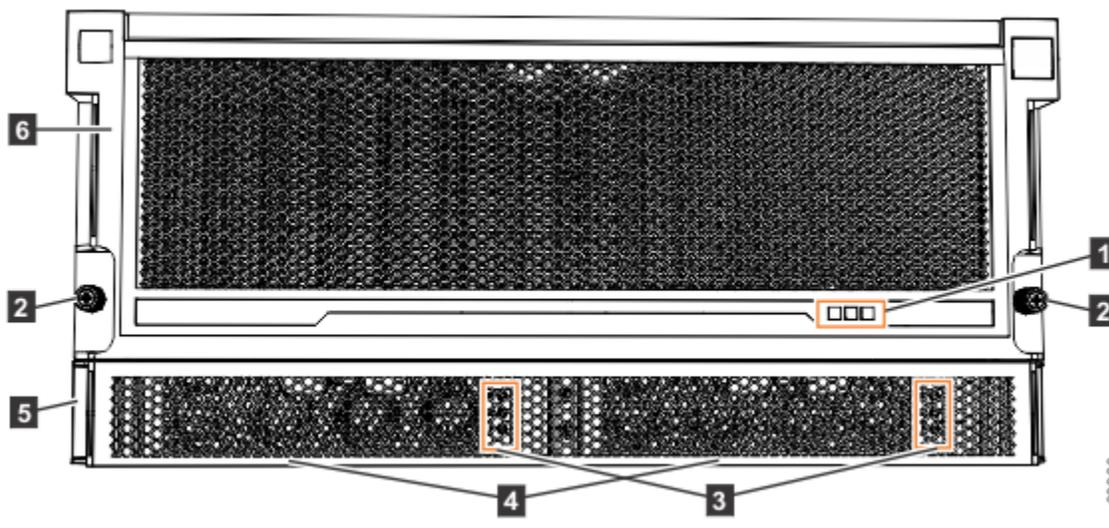
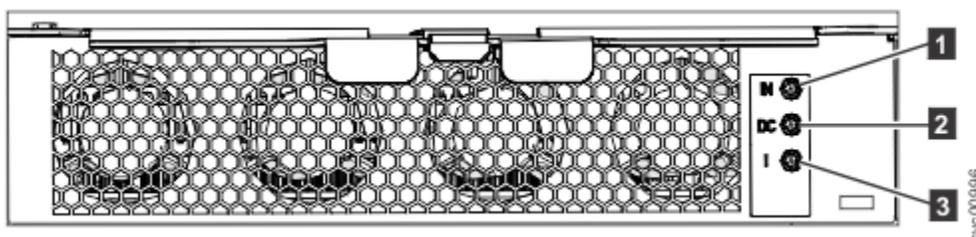

Figure 142. LEDs on the front of the expansion enclosure
Figure 143. LEDs on the front of a power supply unit
As Figure 142 on page 130 shows, the front of the 2145-92F expansion enclosure contains LEDs for the display panel (1) and for each of the power supply units (3).
The 2145-92F expansion enclosure contains two PSUs (4 in Figure 142 on page 130) that are accessible from the front of the enclosure. Each PSU has its own set of LEDs, as shown in Figure 143 on page 131.